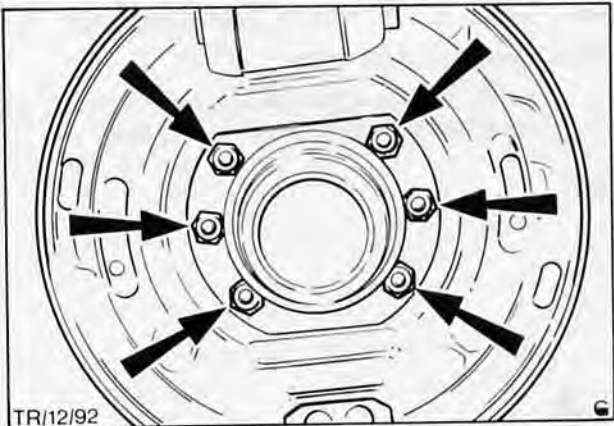

Fig. 18. Detach brake carrier plate ('G' axle shown)
6. Remove brake carriers on right and left hand sides, Fig. 18 (4 nuts each on 'F' and 'H' axles and 6 nuts each on 'G' axle).